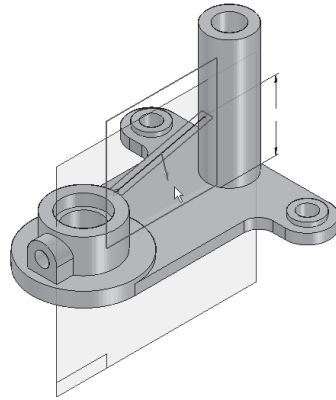

Figure 8-80 Specifying the direction of the rib
5. Enter **8** as the value in the **Thickness** edit box and specify the direction, as shown in Figure 8-80.